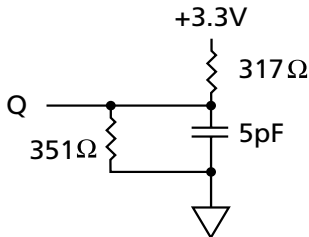
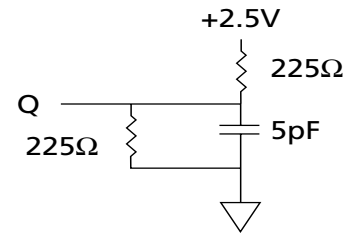

Figure 2
Figure 4
- The load used for V_{OH}, V_{OL} testing is shown in Figure 2 for 3.3V I/O and Figure 4 for 2.5V I/O. AC load current is higher than the shown DC values. AC I/O curves are available upon request.
3. This parameter is measured with the output loading shown in Figure 2 for 3.3V I/O and Figure 4 for 2.5V I/O.